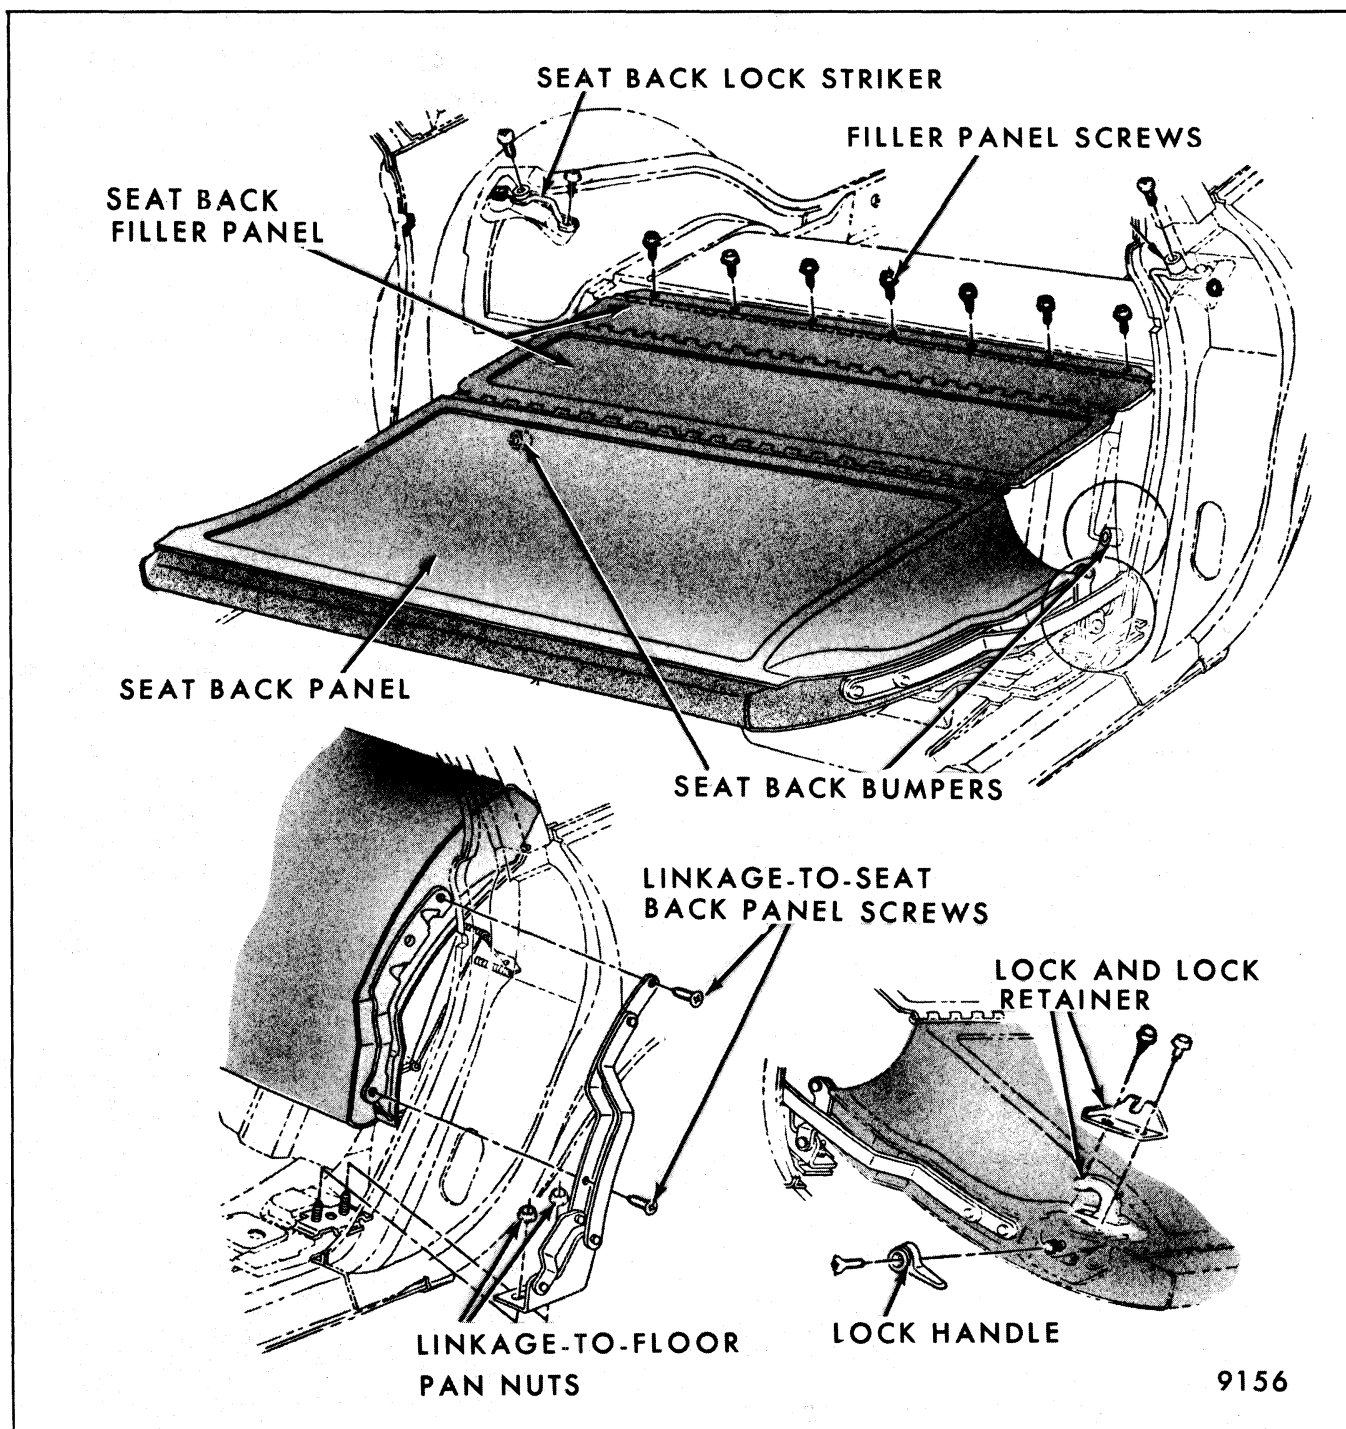

Fig. 9-92-Folding Second Seat Back Linkage and Filler Panel - "A" Body Two-Seat and Three-Seat Styles
3. Mark position of folding second seat back linkage supports on floor pan. Remove nuts from both sides of seat back securing linkage supports to floor pan (Fig. 9-92).
4. To remove linkage from folding second seat back remove linkage-to-seat back panel attaching bolts and remove linkage (see Fig. 9-92).
2. Move folding second seat back forward just sufficiently to remove two linkage-to-seat back panel attaching screws (see Fig. 9-92).
4. Remove nuts securing linkage support to floor pan, then carefully remove linkage assembly from seat back and floor pan (see Fig. 9-92).